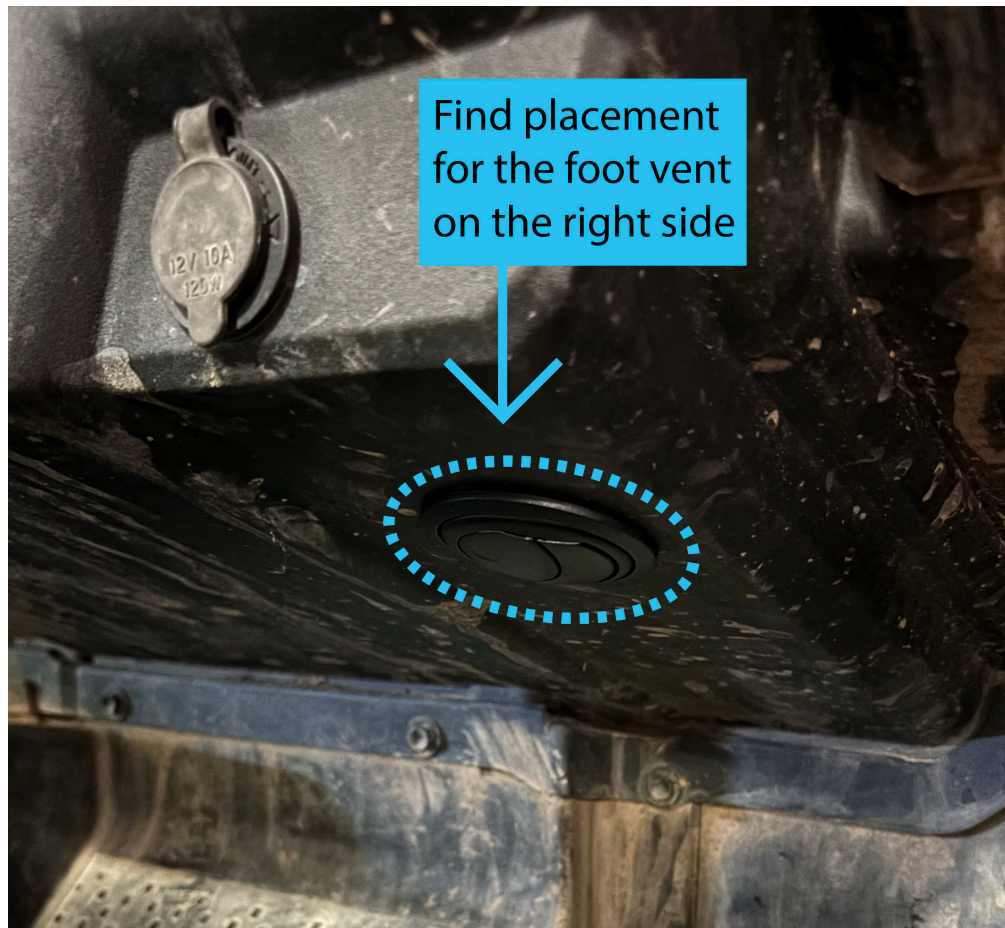

FIGURE 5
12. Locate a spot on the passenger side lower dash next to the center glove compartment. **FIGURE 5**